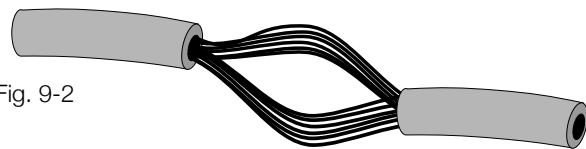

Fig. 9-2
- 1) First locate the proper wire where the poke and weave method is to be installed. Strip 3/4" to 1" of insulation from the wire in the vehicle to be installed. Spread the wire strands apart as shown. See Fig. 9-2